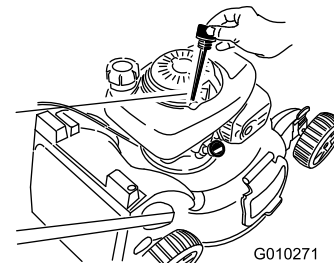

Figure 44
3. Remove the dipstick (Figure 44).